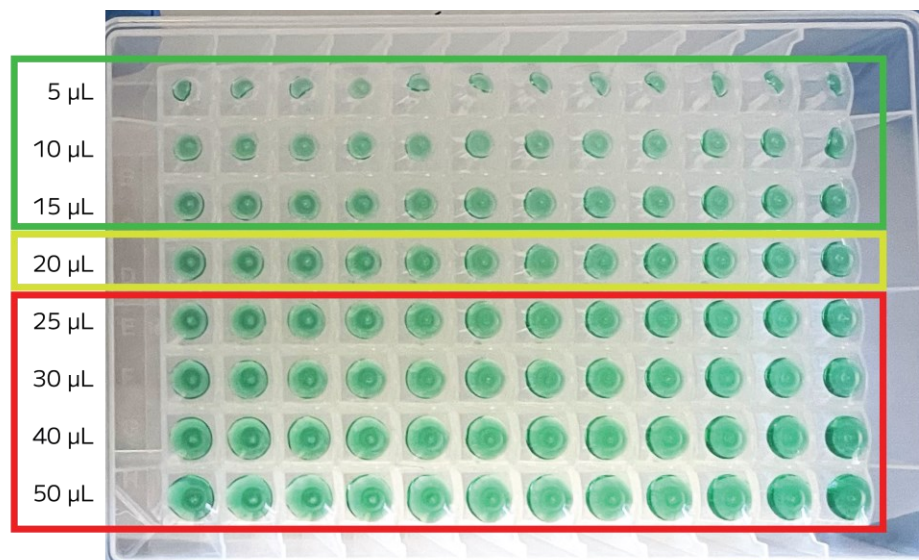

Figure 4: Bottom view of a deep well plate with different volumes of residual supernatant.
- Less than 20 μ L of supernatant should be left in each well after steps 10 and 30 in Section 2. Figure 4 shows different volumes of supernatant when viewed from the bottom of the deep well plate.